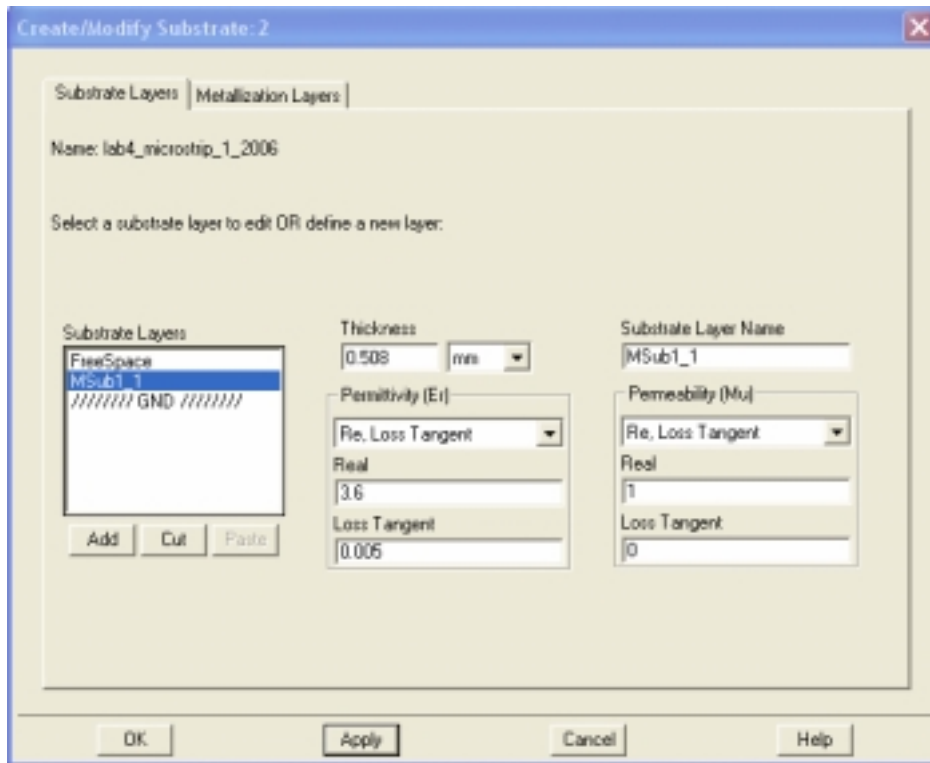
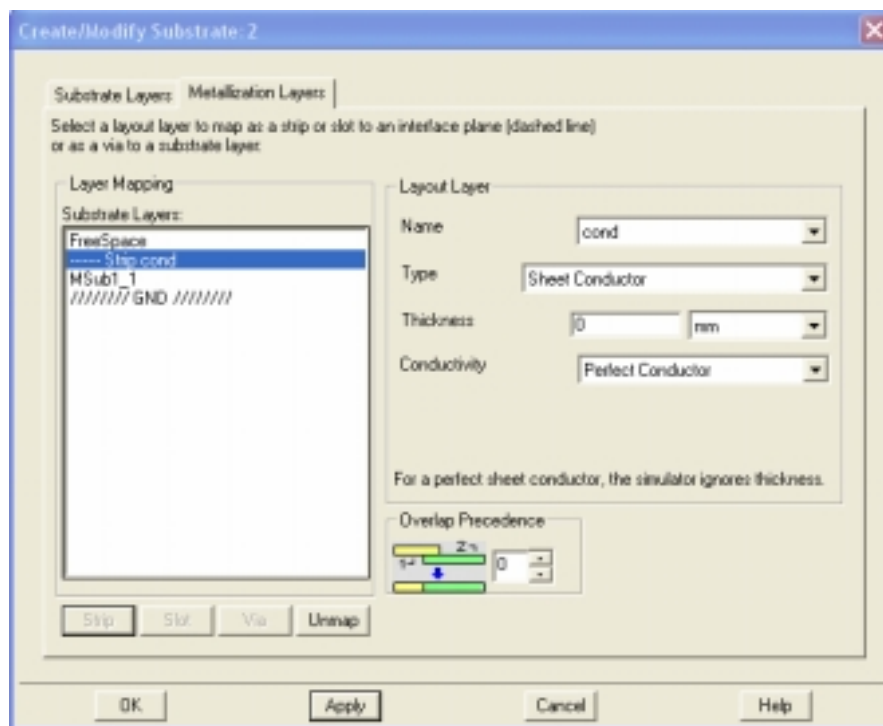

Figure 6. Substrate definition used for the Momentum simulation.
Figure 7. Substrate definition (mapping of metallization layers) used in the Momentum simulation.
- d) In the layout window, select Momentum>Substrate>Update from schematic. This step should automatically transfer the MSUB information from the schematic into the Momentum files (if you select Substrate>Create/Modify, the definition should resemble that given in Figure 6 and Figure 7.